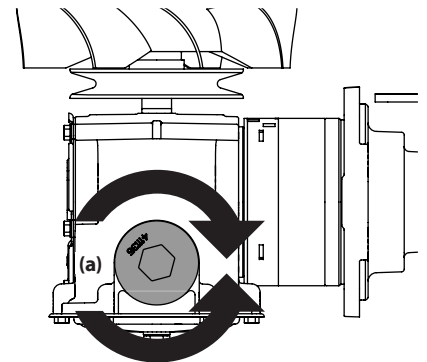

Figure 4-10
2. Place a suitable container under the drain plug (a) on the transmission. Remove the drain plug (a) and allow the transmission oil to drain. See Figure 4-10.